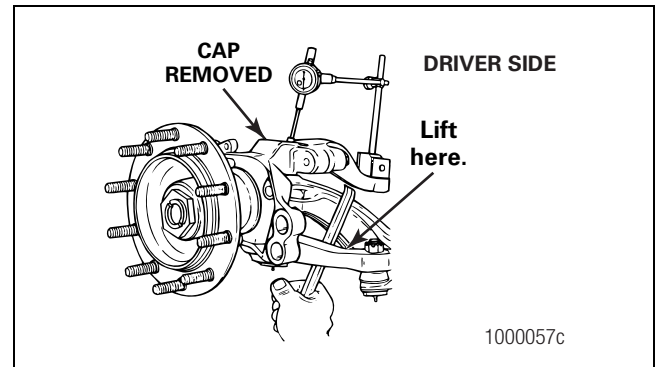

Figure 6.28
4. Raise the jack until the axle beam is slightly raised from the safety stands. Measure and record the dial indicator reading. Figure 6.28.